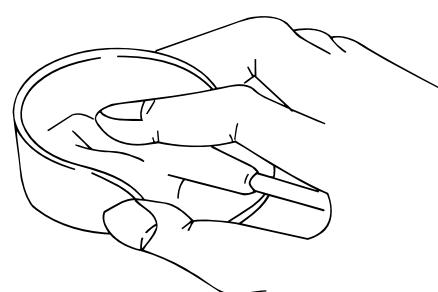

Figure 3-5
(5) Fit your forefinger over the projection at the center of the cap and hold the cap between your thumb and middle finger. (See Figure 3-5)